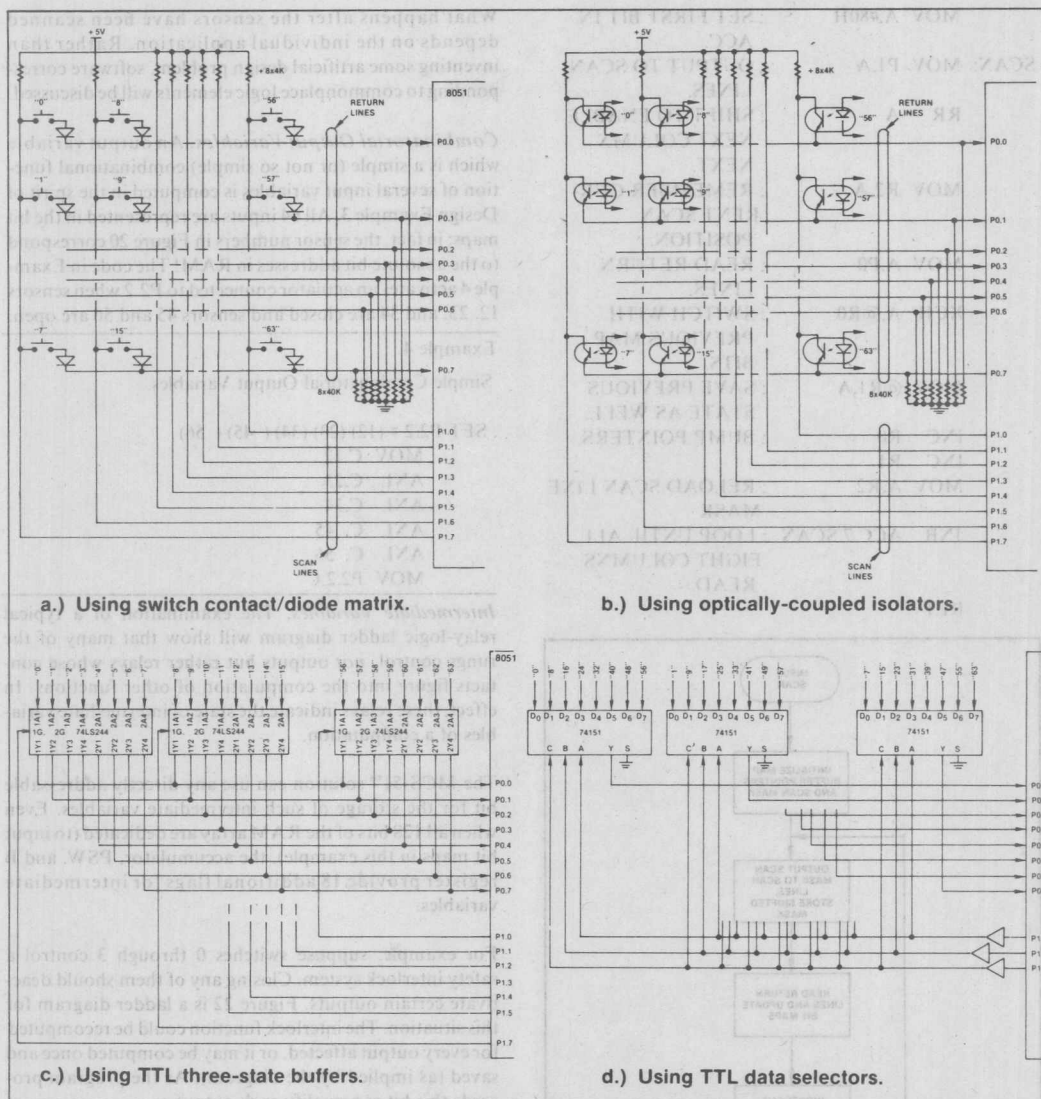

Figure 20. Sensor Matrix Implementation Methods.
There are several ways to implement the sensor matrix circuitry, all logically similar. Figure 20.a shows one possibility. Each of the 64 sensors consists of a pair of simple switch contacts in series with a diode to permit multiple contact closures throughout the matrix.
The circuits in Figures 20.b-20.d are variations on this theme. When input signals must be electrically isolated from the computer circuitry as in noisy industrial environments, phototransistors can replace the switch diode pairs and provide optical isolation as in Figure 20.b. Additional opto-isolators could also be used on the control output and special signal lines.
The other circuits assume that input signals are already at TTL levels. Figure 20.c uses octal three-state buffers enabled by active-low scan signals to gate eight signals onto Port 0. Port 0 is available for memory expansion or peripheral chip interfacing between sensor matrix scans. Eight-to-one multiplexers in Figure 20.d select one of eight inputs for each return line as determined by encoded address bits output on three pins of Port 1. (Five more output pins are thus freed for more control functions.) Each output can drive at least one standard TTL or up to 10 low-power TTL loads without additional buffering.
The code in Example 3 implements the scanning algorithm for the circuits in Figure 20.a. Each column is enabled by setting a single bit in a field of zeroes. The bit maps are positive logic; ones represent contacts that are closed or isolators turned on.
**Combinatorial Output Variables.** An output variable which is a simple (or not so simple) combinational function of several input variables is computed in the spirit of Design Example 3. All 64 inputs are represented in the bit maps; in fact, the sensor numbers in Figure 20 correspond to the absolute bit addresses in RAM! The code in Example 4 activates an actuator connected to P2.2 when sensors 12, 23, and 34 are closed and sensors 45 and 56 are open.